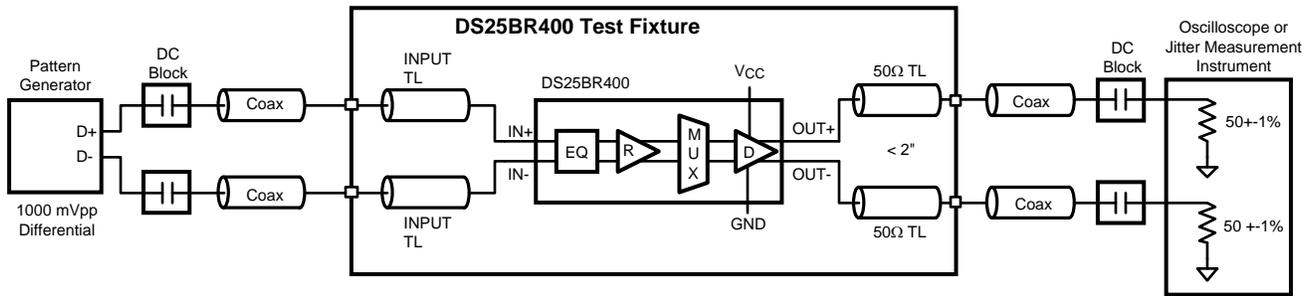

Figure 7. AC Test Circuit
(4) All CML Inputs and Outputs must be AC coupled for optimal jitter performance.
(5) t_{SKO} is the magnitude difference in propagation delays between all data paths on one device. This is channel-to-channel skew. t_{SKPP} is the worst case difference in propagation delay across multiple devices on all channels and operating under identical conditions. For example, for two devices operating under the same conditions, t_{SKPP} is the magnitude difference between the shortest propagation delay measurement on one device to the longest propagation delay measurement on another device.
(6) Device output random jitter is a measurement of random jitter contributed by the device. It is derived by the equation $\sqrt{(RJ_{OUT})^2 - (RJ_{IN})^2}$, where RJ_{OUT} is the total random jitter measured at the output of the device in ps(rms), RJ_{IN} is the random jitter of the pattern generator driving the device. Below 400 Mbps, system jitter and device jitter could not be separated. The 250 Mbps specification includes system random jitter. Please see Figure 7 for the AC test circuit.
(7) Device output deterministic jitter is a measurement of the deterministic jitter contribution from the device. It is derived by the equation $(DJ_{OUT} - DJ_{IN})$, where DJ_{OUT} is the total peak-to-peak deterministic jitter measured at the output of the device in ps(p-p). DJ_{IN} is the peak-to-peak deterministic jitter at the input of the test board. Please see Figure 7 for the AC test circuit.
(8) This parameter is guaranteed by design and/or characterization and is not tested in production.